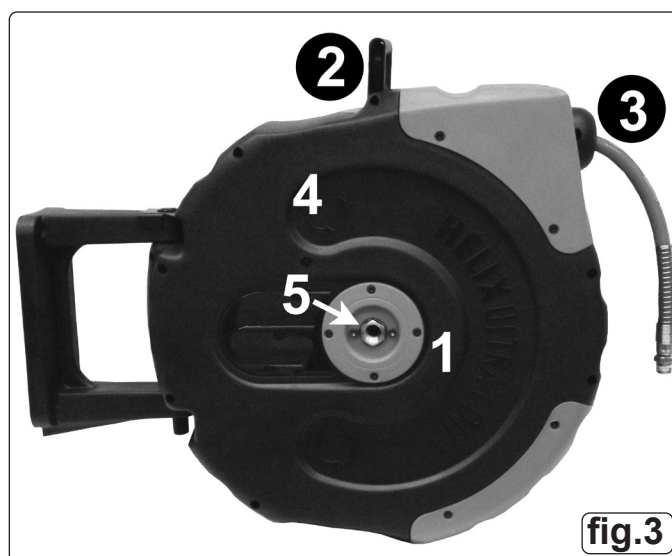

fig.3
- 4.6. FITTING THE CONNECTING HOSE (REFER TO FIG.3)